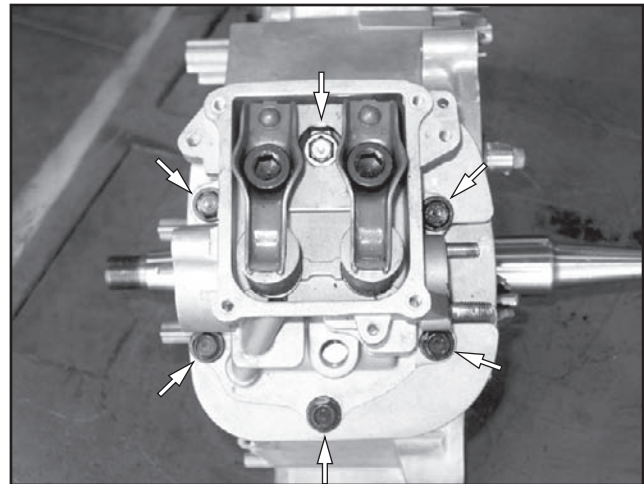

Figure 5-4. Remove Cylinder Head
4. Remove head bolts and cylinder head (Figure 5-4).